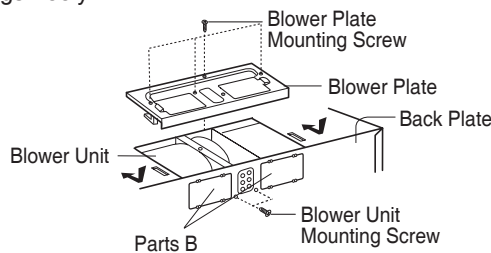

Figure 23
6. Reattach blower plate to microwave oven. Attach with the one blower unit mounting screw and then the one or several blower plate mounting screw(s). See Figure 23.